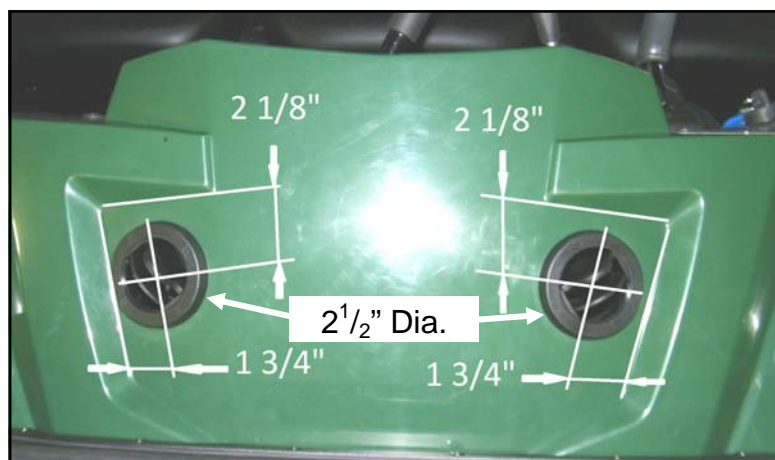

FIGURE 1.1 (Dash Vent Location)
1. Drill two (2) 2-1/2" holes in the dashboard of the vehicle as shown in Figure 1.1. (Note: if the cab is installed, disconnect the latches and prop the windshield open for easier access)